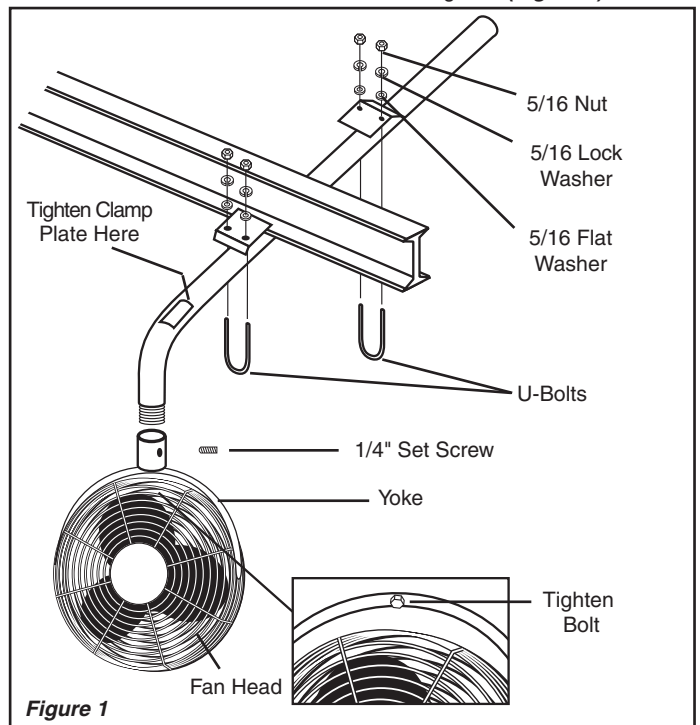

Figure 1
1. Locate the L-shaped pipe to the desired location on the I-Beam flange. Install the 5/16 x 2" U-Bolt over the pipe and through the clamping plate holes. The flat part of the clamping plate fits on the I-Beam flange and the end with the slight bend goes against the pipe. Install flat washer, lock washer and nuts. Finger tighten the nuts on the U-Bolt. (**Figure 1**)